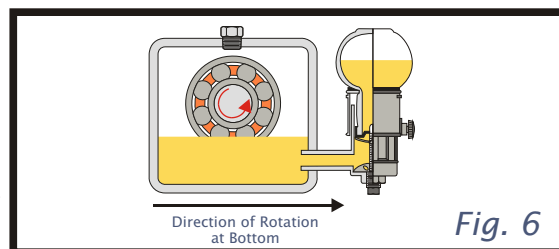

Fig. 6
2. Oiler location with respect to bearing type, rotating speed of equipment, multiple start-ups, slinger rings, etc. may cause the oiler to misfeed. Check lubricant levels periodically to ensure proper application. Mount oiler facing direction of rotation at bottom of shaft (Fig. 6).
5. Frequent equipment starts may cause overfilling. This can be minimized by mounting the oiler on the side facing the direction of rotation at the bottom of shaft (Fig. 6).